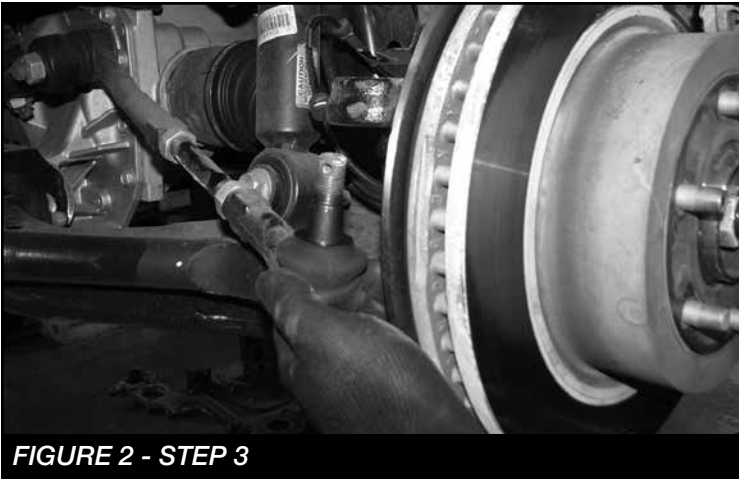

FIGURE 2 - STEP 3
3. Disconnect the tie rod ends from the steering knuckle by striking the knuckle to dislodge the tie rod end. **USE CARE NOT TO DAMAGE THE THREADS ON THE TIE ROD END WHEN REMOVING. SEE FIGURE 2**